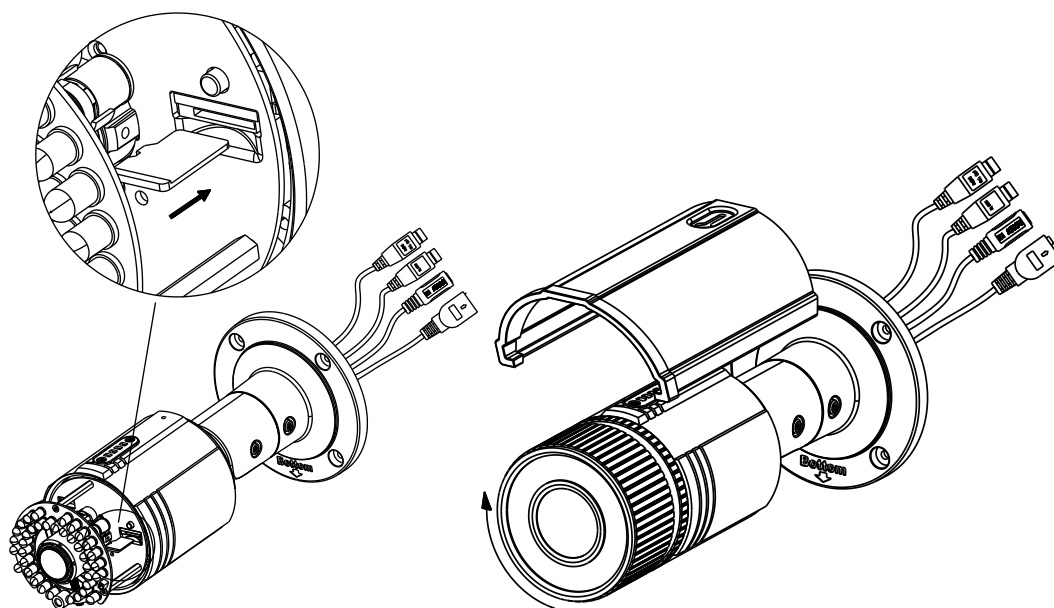

Figure 5-26 Install the SD Card
5. Rotate the front cover clockwise to install the sun shield according to the arrow direction as shown in Figure 5-26(right).